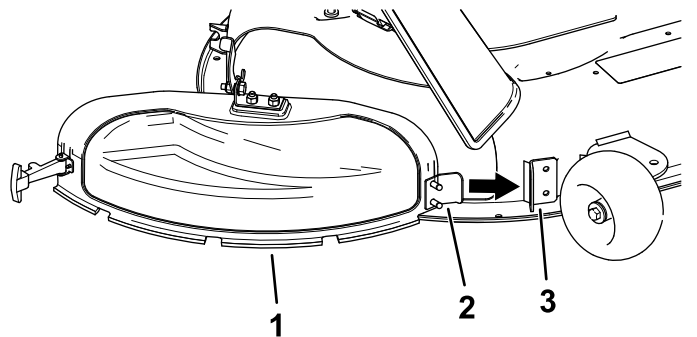

Figure 14
3. Angle the metal tab on the discharge cover into the slot in the bracket welded to the mower deck (Figure 14).